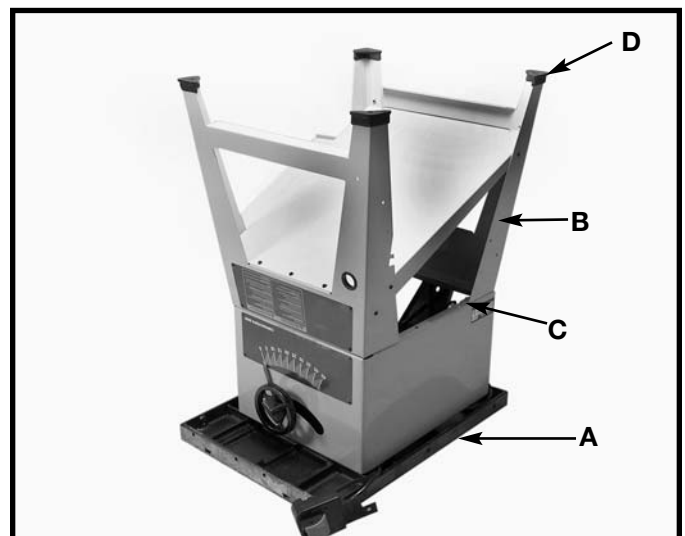

Fig. 7
1. Turn saw table face down on a piece of cardboard to protect the table surface. Place stand (B) Fig. 7, onto saw (A). Align eight holes in the stand (B) with mounting holes in the saw (A). Fasten stand with eight 5/16"-18 bolts, flat washers, lockwashers, and hex nuts one of which is shown at (C) Fig. 7. Assemble flat washers on bolts, place bolts through holes, assemble lockwashers then hex nuts finger tight. Do not completely tighten hardware at this time.
2. Install four rubber feet (D) Fig. 7, on the end of each stand leg (B).